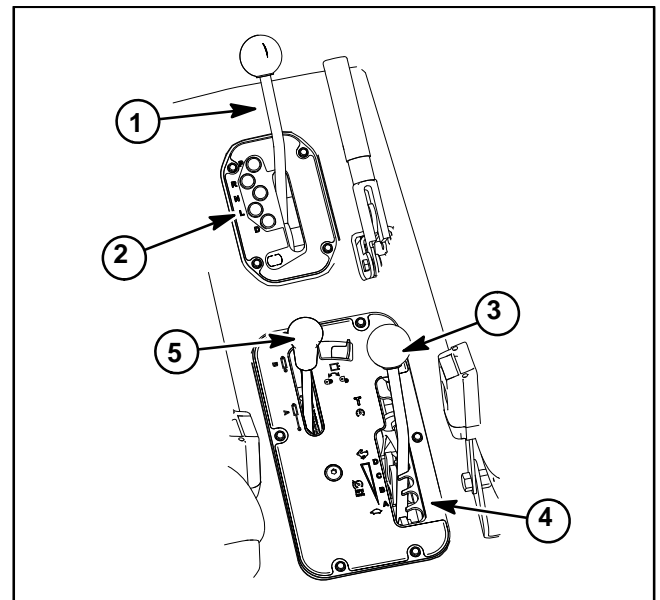
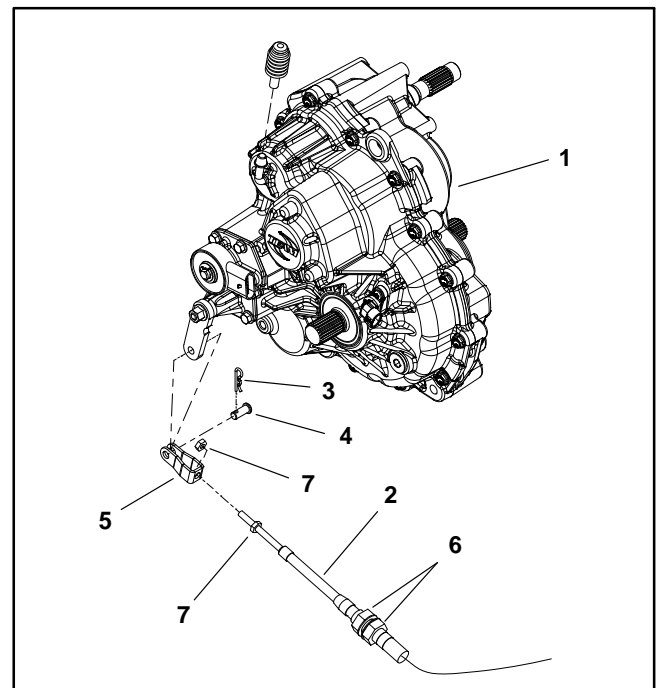

Figure 13
Figure 14
2. Remove knobs from control levers, then remove shift and control plates from seat base (Fig. 13).
3. Remove two (2) screws (item 7) and cable clamp (item 6) that secure shift cable to lever support.
4. Remove hair pin and clevis pin that secure shift cable clevis (item 10) to transmission lever (item 1) in shift plate opening of seat base.
5. Remove shift cable from transmission shift lever (Fig. 14):
- B. Loosen jam nuts (item 6 in Fig. 14) that secure shift cable to shift cable mount bracket on engine/transmission mount.
3. Connect shift cable to transmission lever in seat base console by inserting clevis pin (item 8) from the passenger side, then install hair pin.
4. Secure shift cable to lever support using cable clamp (item 6) and two (2) screws (item 7). Make sure that rib in clamp and groove in cable align correctly.
B. Secure shift cable to shift cable mount bracket on engine/transmission mount with cable jam nuts (item 6 in Fig. 14). Center jam nuts on threaded area of shift cable during assembly.
8. Install shift and control plates to seat base and then secure knobs to control levers (Fig. 13).